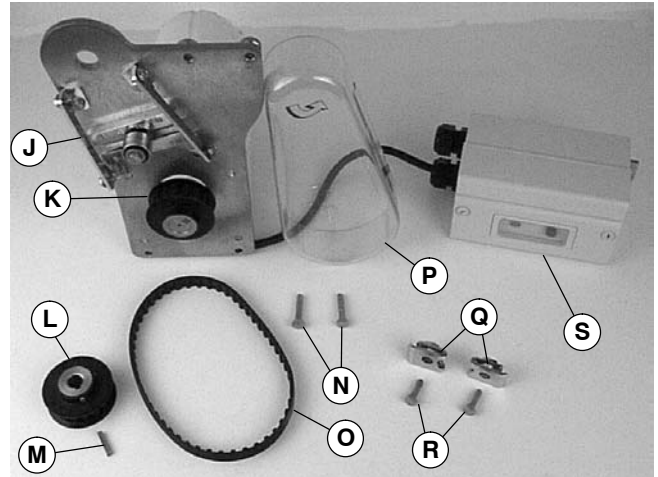

Figure 2
1. Typical components (Figure 2)
**NOTE:** Figure 2 shows a 7200 Series mounting package with a timing belt and three-phase Motor Starter. Single-phase Motor Starter or VFD Controller similar. 7300 Series mounting package similar.